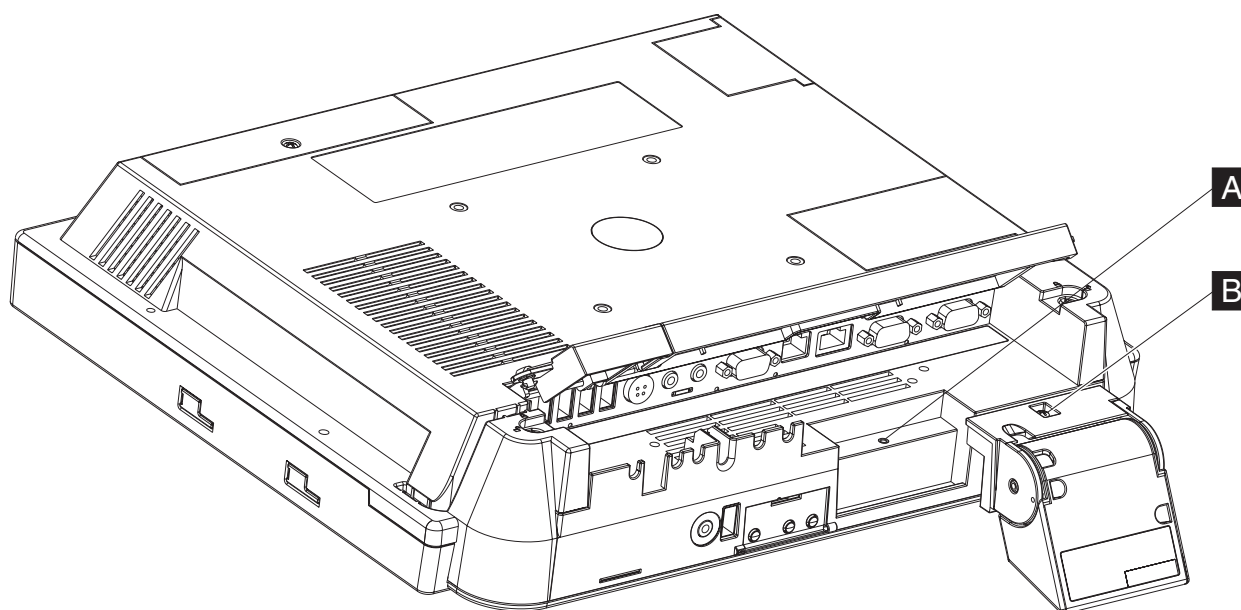

Figure 6. Installing the scanner
2. Align the scanner with the screw hole (**A** in Figure 6) and secure the captured screw (**B**).